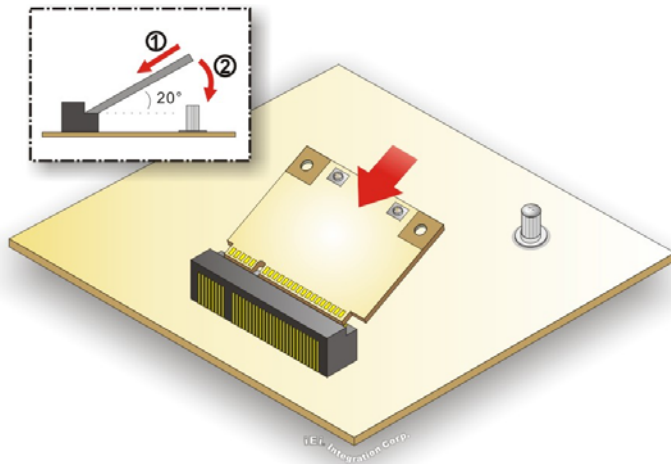

Figure 3-19: Inserting the WLAN Module
Step 5: **Insert into the socket at an angle.** Line up the notch on the WLAN module with the notch on the slot. Slide the WLAN module into the slot at an angle of about 20° (Figure 3-19).